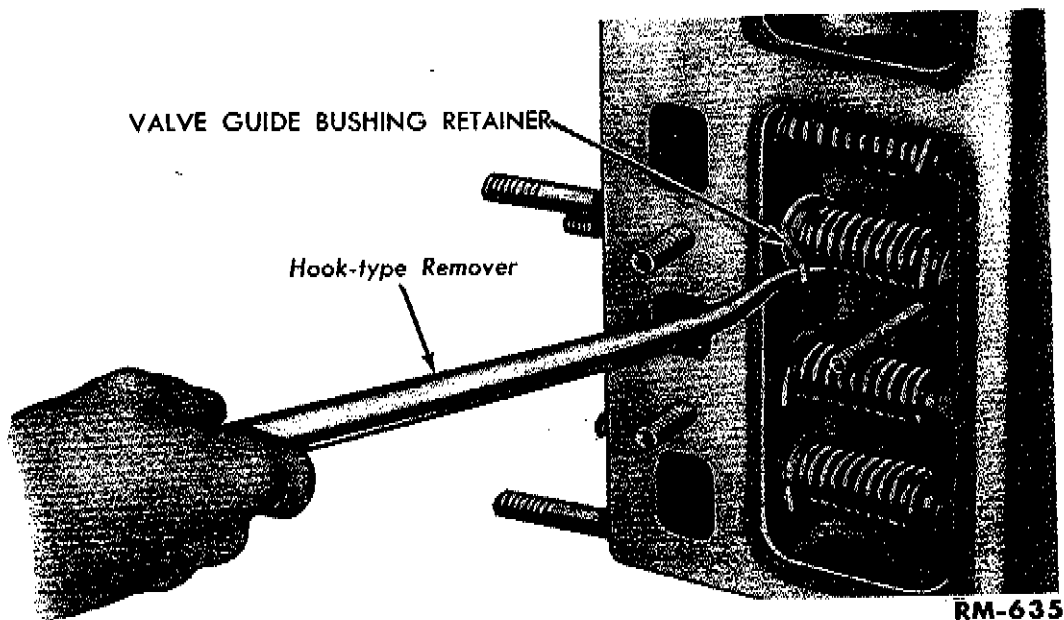

Fig. 4—Removing Valve Guide Bushing Retainer
f. **Remove Valve Assemblies and Camshaft.** Remove the cylinder front cover (fig. 3) from the cylinder block. Remove the nut and flat washer from each valve chamber cover. Remove the valve guide bushing retainer with a hook-type remover (fig. 4) from all valves that are in the closed position. Turn the crankshaft until those valves which were in an open position are in the closed position. Repeat the above procedure, and remove the remaining retainers. Remove the valve assemblies from the